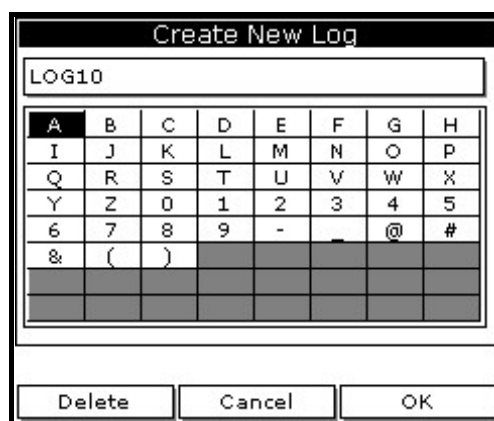

Figure 42: Name Entry Window for a New Log
4. Use the arrow key to scroll to Clone Selected Log and press **[ENTER]**. The screen now appears similar to Figure 42 on page 55.